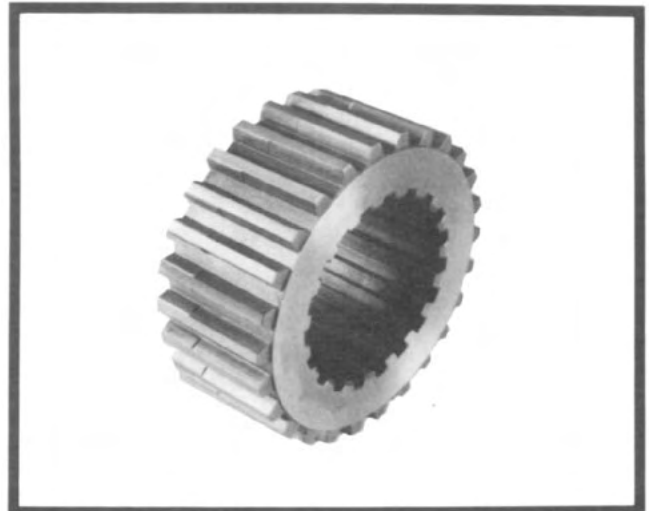

Fig. 8
5. For ease in assembly, use a companion flange from the transfer case as a stand for the shaft. Slide the flange onto the front of the shaft and stand the shaft upright. Slide the clutch gear onto the raised teeth of the shaft. The jump lock portion of the teeth (see fig. 8) are to face the
2. Stand the shaft upright on the declutch gear. Slide the clutch collar over the shaft and allow to set on the roller bearing. Slide the clutch gear onto the raised teeth of the shaft. Be sure the jump lock is facing up or toward the end of the shaft where the direct drive gear will be located (see fig. 8).